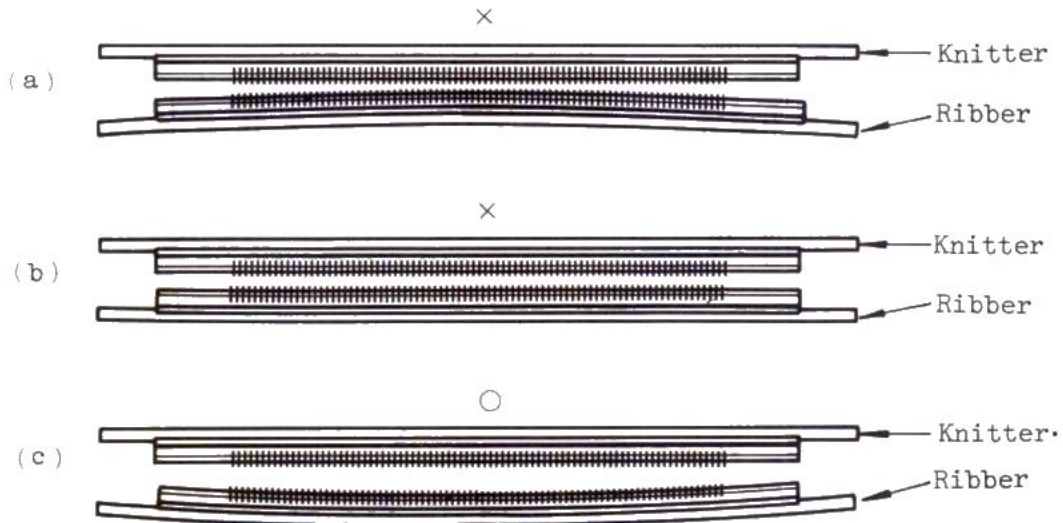
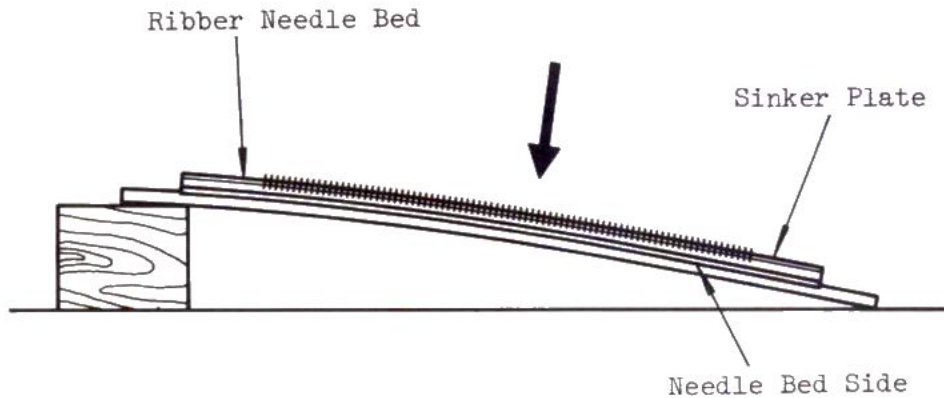

Fig. 22
Fig. 23
- (1) The Needle Bed of the SRP-50 Ribber is warped as indicated in Fig. 22 (the vertical space between the Ribber and the main machine is 0.3 - 0.5 m/m, wider at the centre in comparison with the space at the edges).
If the Needle Bed is warped as indicated in Fig. 22 (a) or (b), the stitches will be apt to float or drop. In this case, position the Needle Bed as shown in Fig. 23 and adjust it.